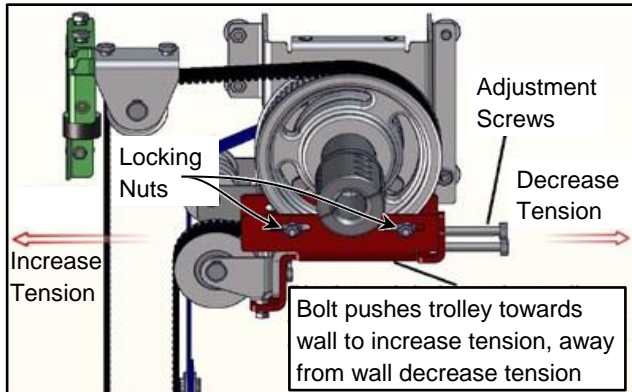

Figure 66
5. Release the tension from the secondary drive belt by moving the trolley bracket at the top of the side column away from the wall. (See Figure 66)